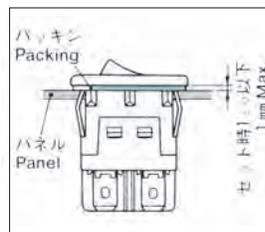

Fig.2.
- スイッチをパネルへ取付けたとき、セット時にパッキン厚が1ミリ以下になるように取付けてください。(Fig.2.参照)
- Mount the switch on the panel so tightly that there is no gap between the packing and the panel. The thickness of the packing shall be less than 1 mm as in Fig. 2.